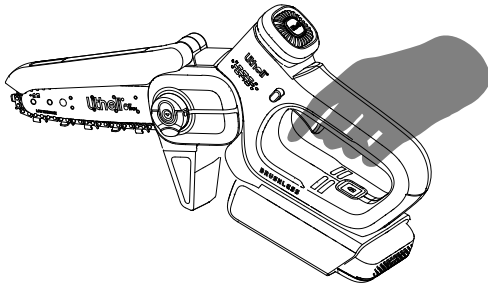

Fig. 13
1. Firmly grasp the rear handle with your hand. (See Fig. 13)